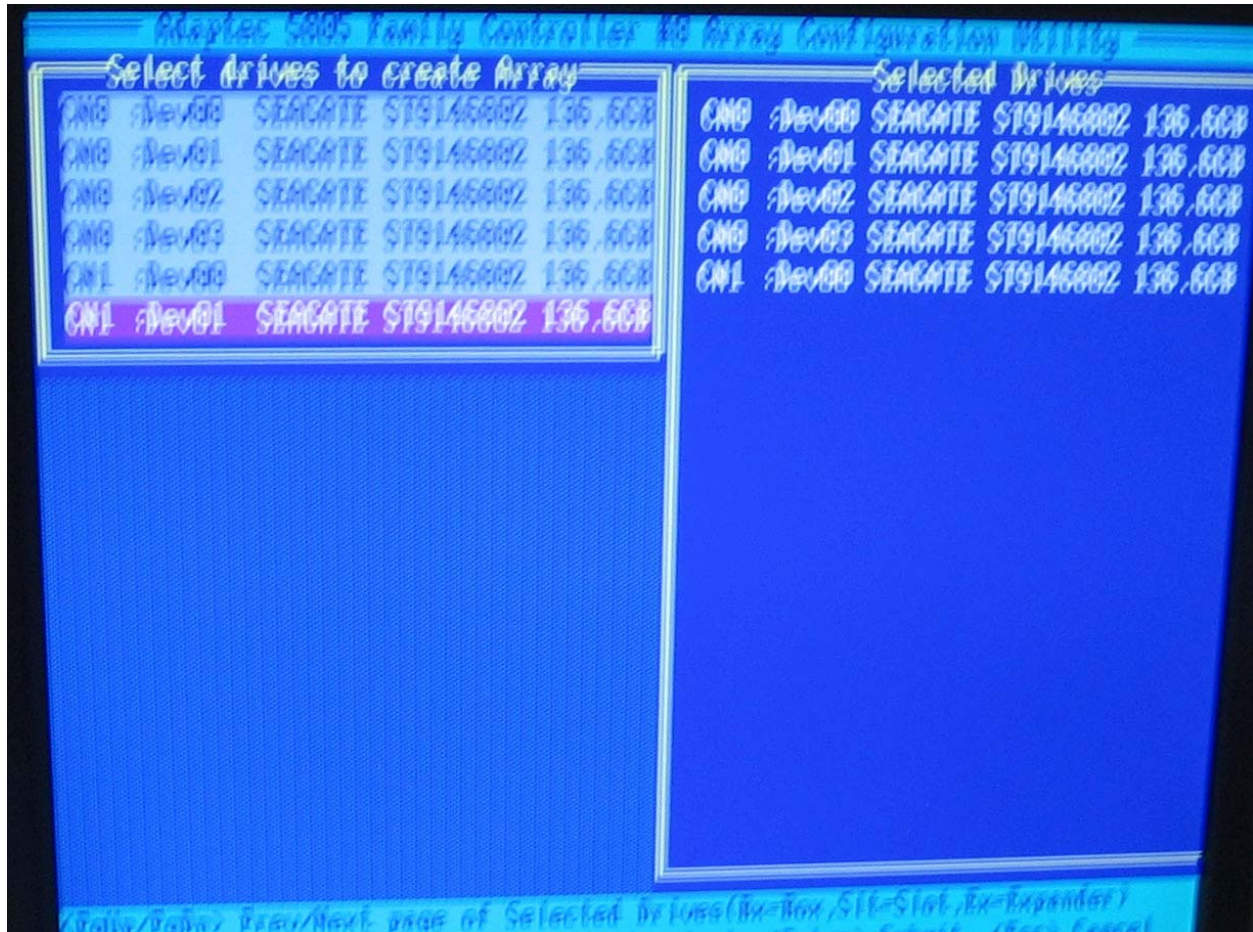

Figure 7-7 Select Drives
9. Select the first Five (5) Hard Drives that were just initialized, press **Insert** for each selected disk drive, then press **Enter**. (Figure 7-7).